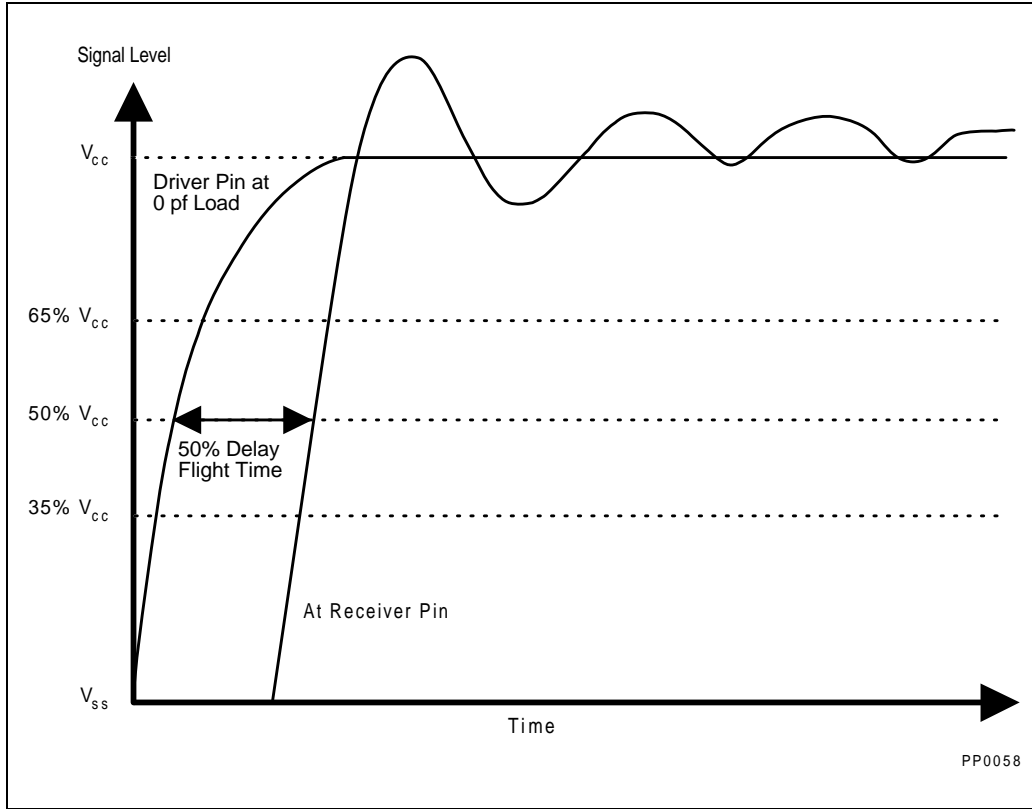

Figure 23-8. V_{CC} Measurement of Flight Time
29. This is a flight time specification, that includes both flight time and clock skew. The flight time is the time from where the unloaded driver crosses 1.5V (50% of min V_{CC}), to where the receiver crosses the 1.5V level (50% of min V_{CC}). See Figure 23.8.